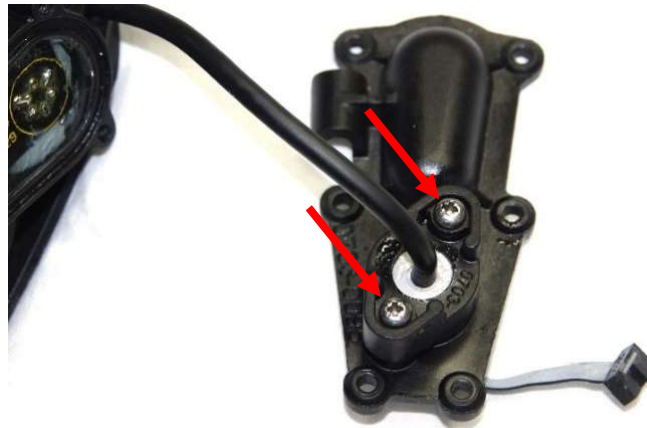

Figure 54: Cover Bulkhead.
- Fasten two screws into the cover ribbon cable. Shown in Figure 54. Tightening these screws squeezes the grommet around the wiring loom creating a water tight seal.